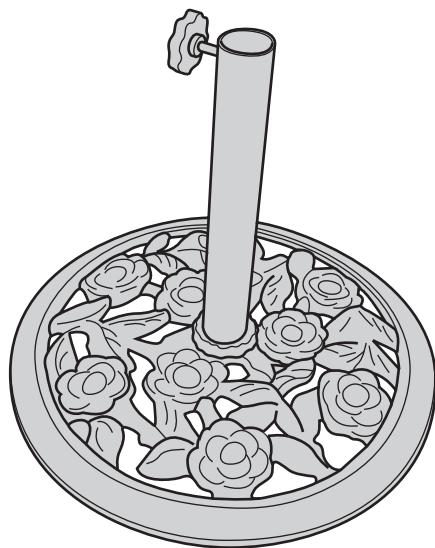

Fig. 2
Fig. 2 shows a base for a garden parasol.
- (a) Give **four** design requirements for the parasol base shown in Fig. 2.